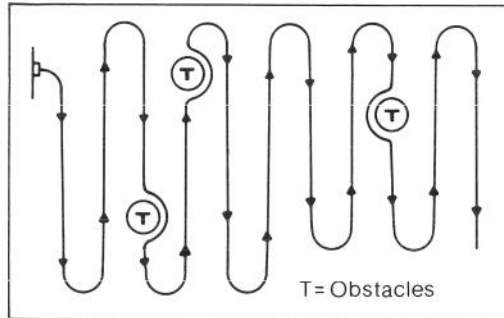

Figure 4
1. Begin mowing near the electrical outlet and work outward (Fig. 4). Mow back and forth.
IMPORTANT: By following the suggested mowing pattern (Fig. 4), the extension cord will not sustain unnecessary wear. Do not allow extension cord to wrap around trees, shrubs or other obstacles.